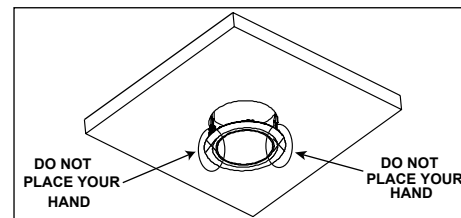

Figure 7
- **DO NOT PLACE YOUR HAND UNDERNEATH SPRING CLIP DURING REMOVAL PROCESS. SNAPPING OF THE CLIPS CAN CAUSE INJURIES TO THE HAND. (Figure 7)**